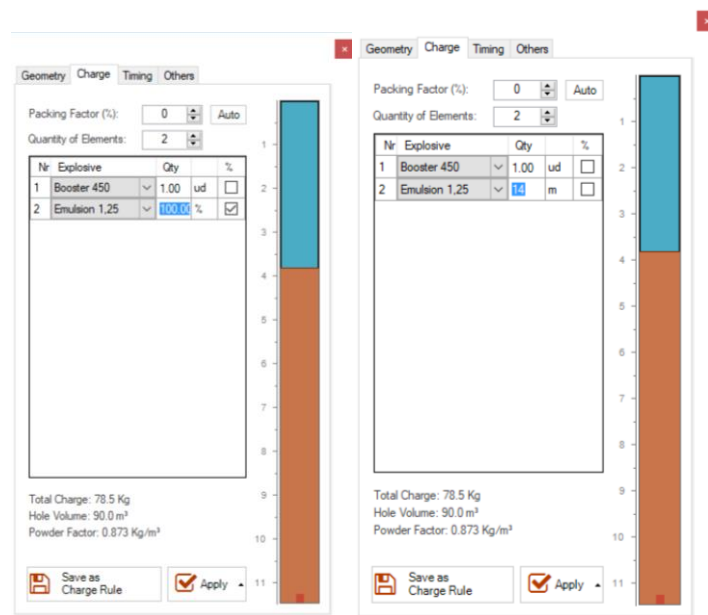

Fig. 187 - Left (A): Adding column charge by percentage; Right(B): Adding column charge by meters
- by percentage: the user selects the hole percentage to be filled by the product (Fig. 187 A)
- by meters: the user selects the meters to be completed by using the product (Fig. 187 B)